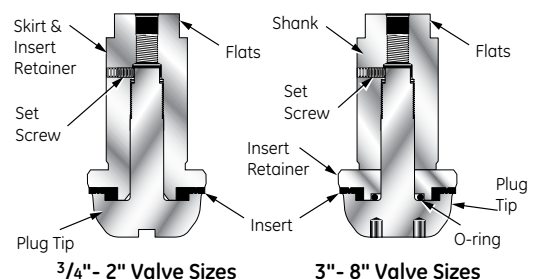

Figure 3 - Soft Seat Plugs (Optional)
7.7 Soft Seat Plug (Figure 3)
- a. Place new insert on shank and insert retainer as shown in Figure 3.
- b. Install new insert on insert retainer and assemble as shown in Figure 3.